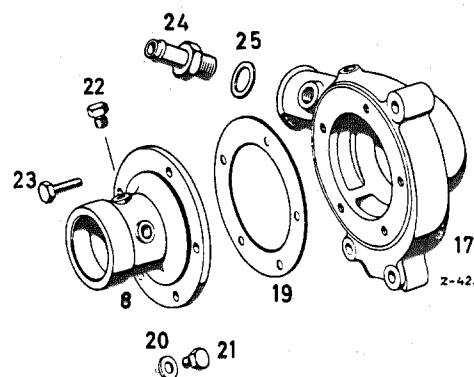

Fig. 20 — 5/8
15. Use Fitting Sleeve 180 589 09 39 to press the seal (15) into the seal retainer (16) and to press the seal retainer onto the bearing housing.
16. Press the spacer washer (14) and the hub (18) onto the shaft, using Fitting Sleeve 187 589 09 39 for the former. The hub must be flush with the end of the shaft.
17. Once more check the distance from the flange of the bearing housing to the oblique face of the impeller (23 ± 0.2), then screw the water pump housing (17) onto the bearing housing (8). Use a new gasket (19) when doing this (Fig. 20 — 5/8).